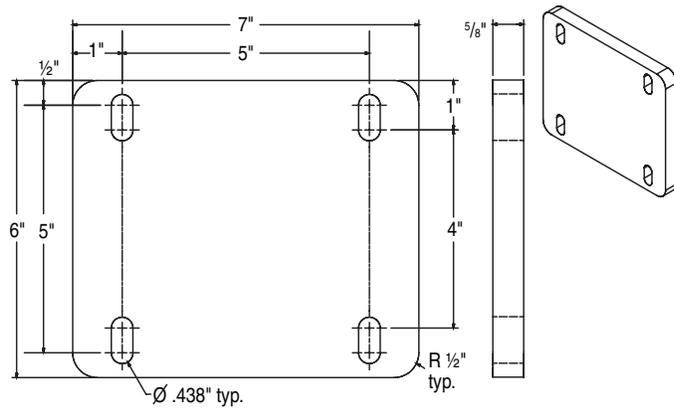

Figure 8
- ① Locate Lift Angle from the board mounting kit (see Fig. 8).
- ② Bolt Lift Angle to Height Adjuster with the Angle turned down.
- ③ Locate Fan Aluminum Goal Spacer from the board mounting kit.
- ④ Place Goal Spacer between the Backboard and the Height Adjuster, positioning it between the Goal Mounting Bolts.
- ⑤ Apply the 1/2" wide section cut of scale to stationary outer slip tube so that it lines up with 10' marking.